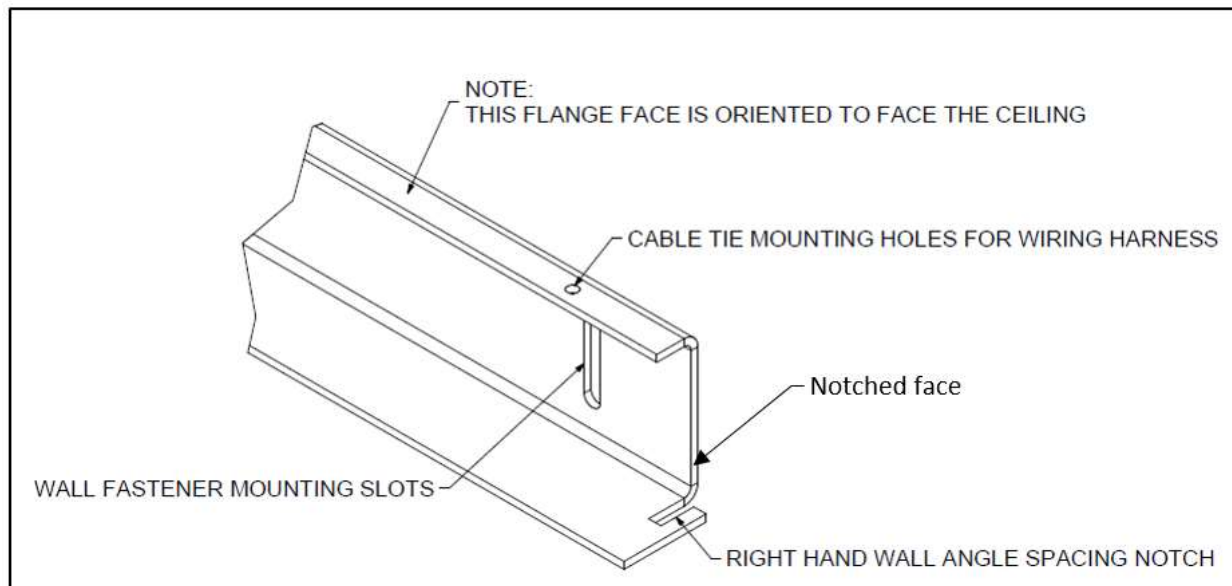
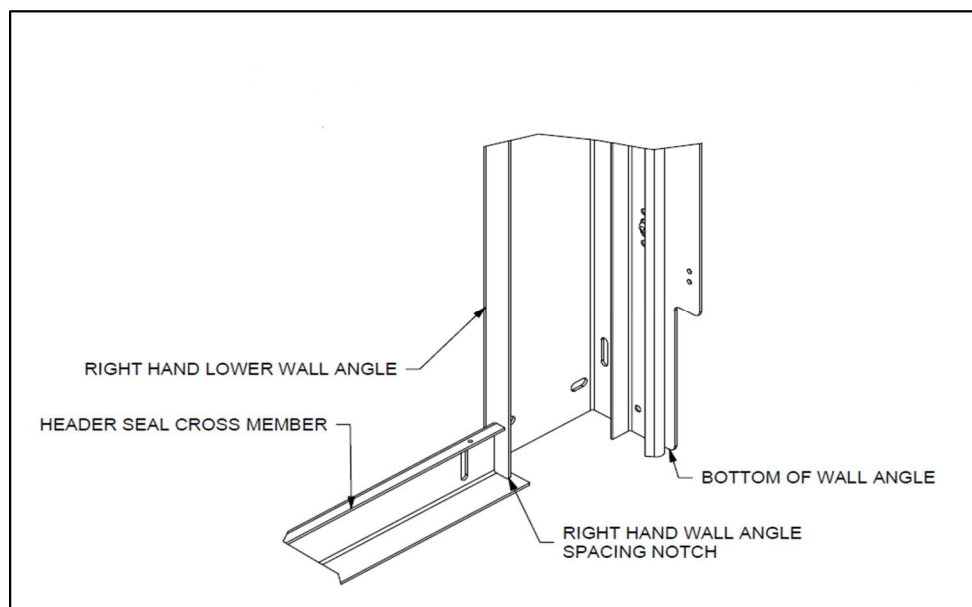

Figure 10 – Header Seal Cross Member
Figure 11 - HEADER SEAL CROSS MEMBER INSTALLATION SPACER
23. Referring to **Figure 10** and **Figure 11**, place the header seal cross member across the opening with the larger flange resting on the ground. The right-hand wall angle spacing notch will go over the smaller flange on the right-hand lower wall angle.
27. Use the header seal cross member to verify the proper spacing for the left-hand wall angle. Place short flange on left-hand wall angle inside of left-hand wall angle spacing notch, mirroring **Figure 11**.